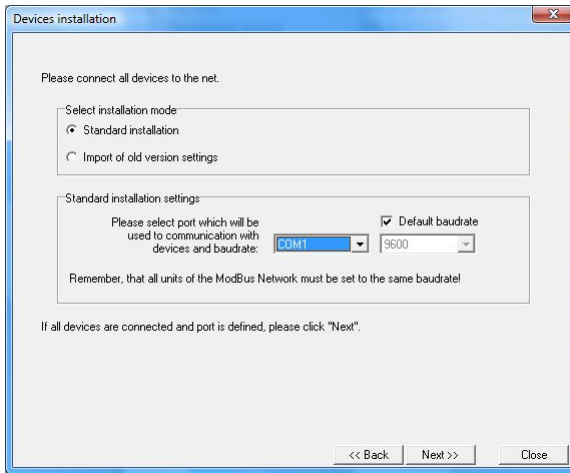

Figure 2.2. Selection of serial port
3. Next screen (**Figure 2.2**) enables the selection of the number for the RS 232 serial port for the converter. The number of the selected port must comply with number of the port to which the converter is connected. If devices have work with different baud rate than default value (9600 bit/s) then user can specify desired value using this parameter.